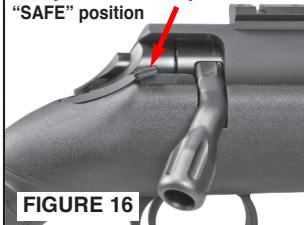

FIGURE 16
- Place the safety lever in the "SAFE" position (FIGURE 16).